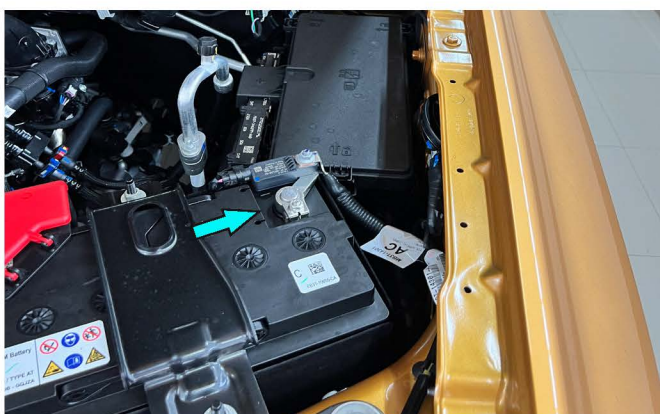

Fig.69
68. Connect terminal “-” on the battery (fig.69).